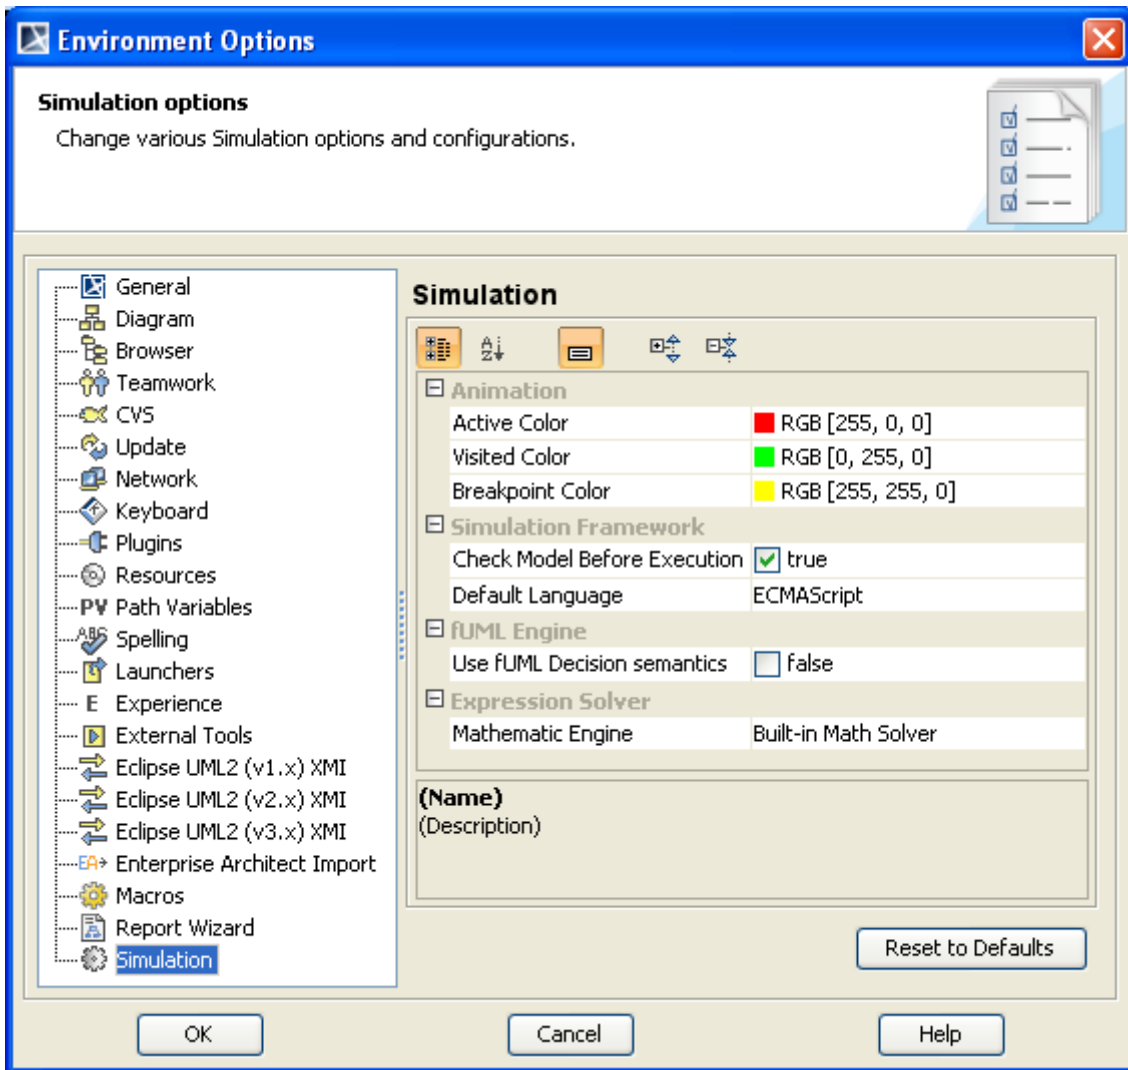

Figure 23 -- Customizing Animation Colors in the Environment Options Dialog
2. Select the Simulation node on the left-hand side (Figure 23).